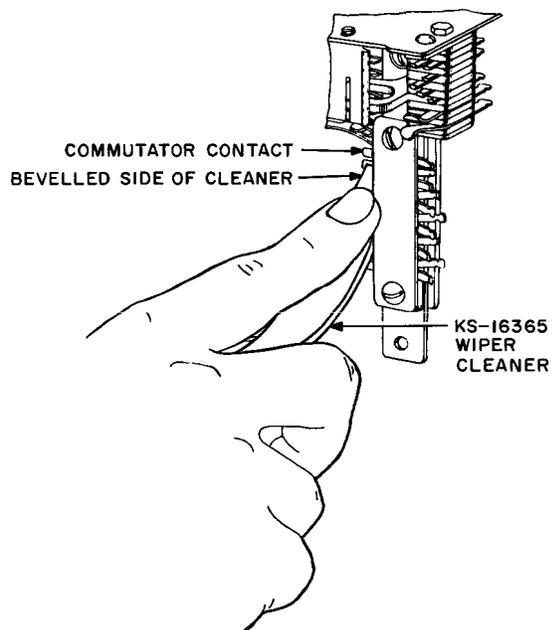
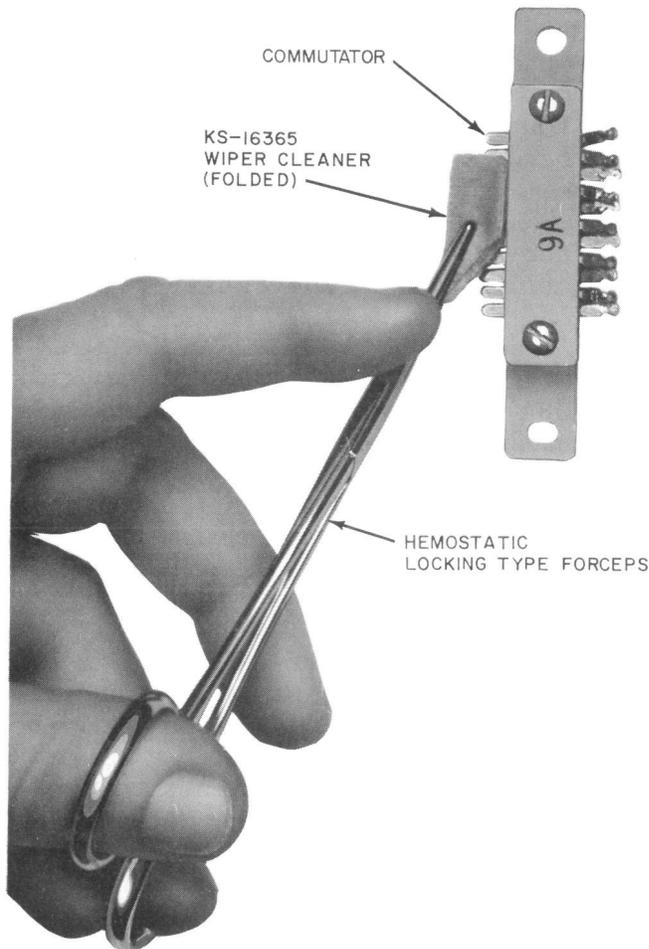

Fig. 3—Method of Nonabrasively Cleaning Commutator Contacts
Fig. 4—Alternate Method of Nonabrasively Cleaning Commutator Contacts
(6) Flush and moisten the KS-16365 wiper cleaner as covered in (3 or 4). Clean commutator contacts as covered in (7) and commutator wipers as covered in (8).
(7) **Commutator Contacts:** To clean commutator contacts, step the switch to the fourth rotary position. Holding the KS-16365 wiper cleaner with the beveled side away from the commutator clamping plate, press the cleaner against the commutator as shown in Fig. 3. Then rub the cleaner up and down over the commutator contacts the specified number of full double strokes. In order to avoid wetting the fingers with KS-16436 L1 or KS-16436 L2 washing fluid, the KS-16356 wiper cleaner may be folded and held by means of a hemostatic type forceps as shown in Fig. 4.